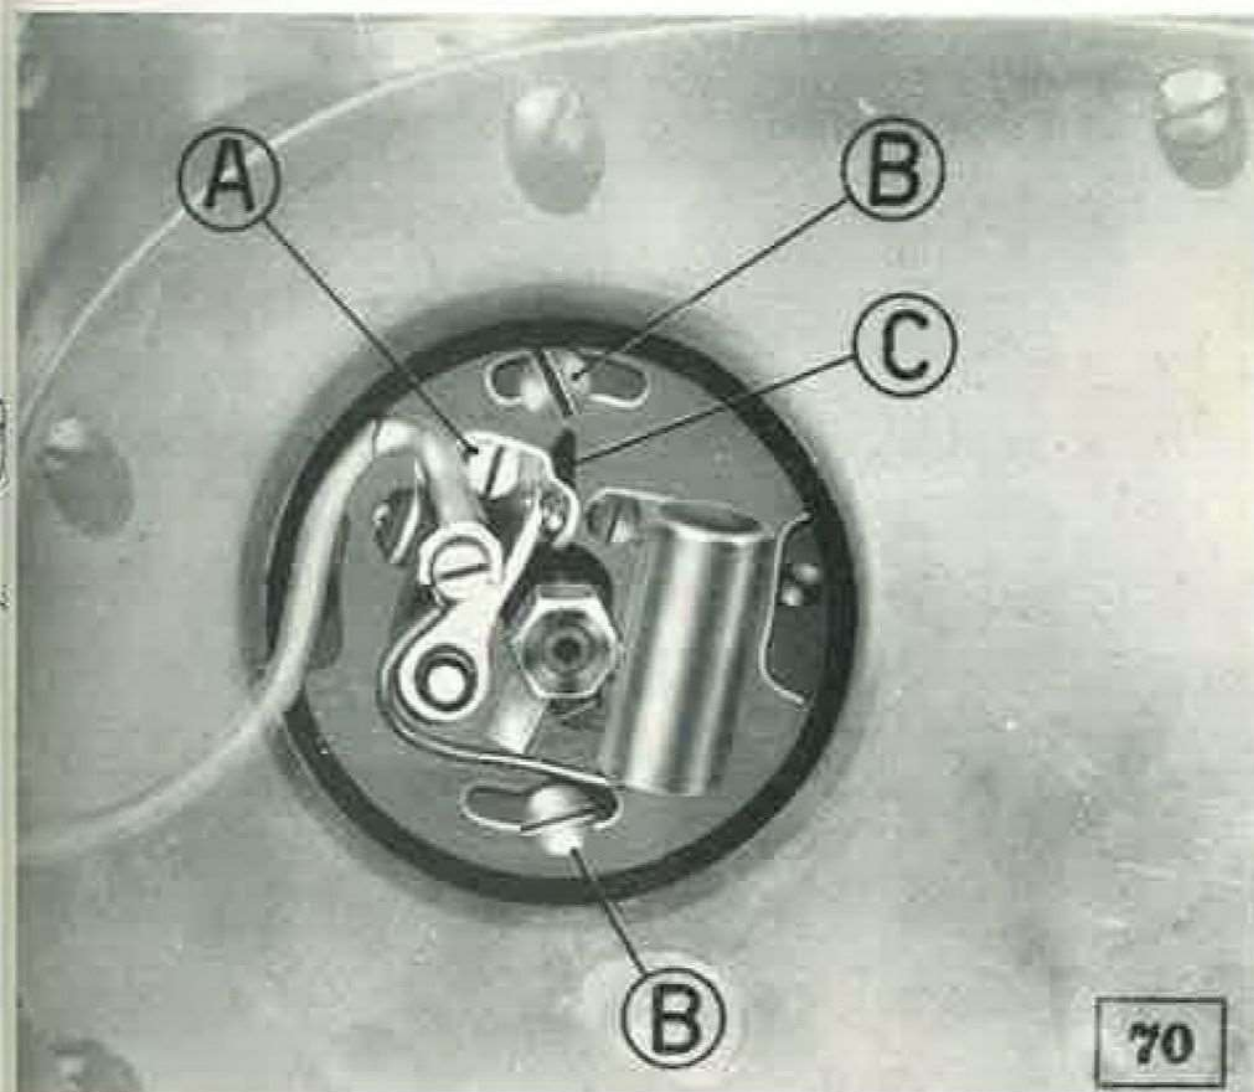
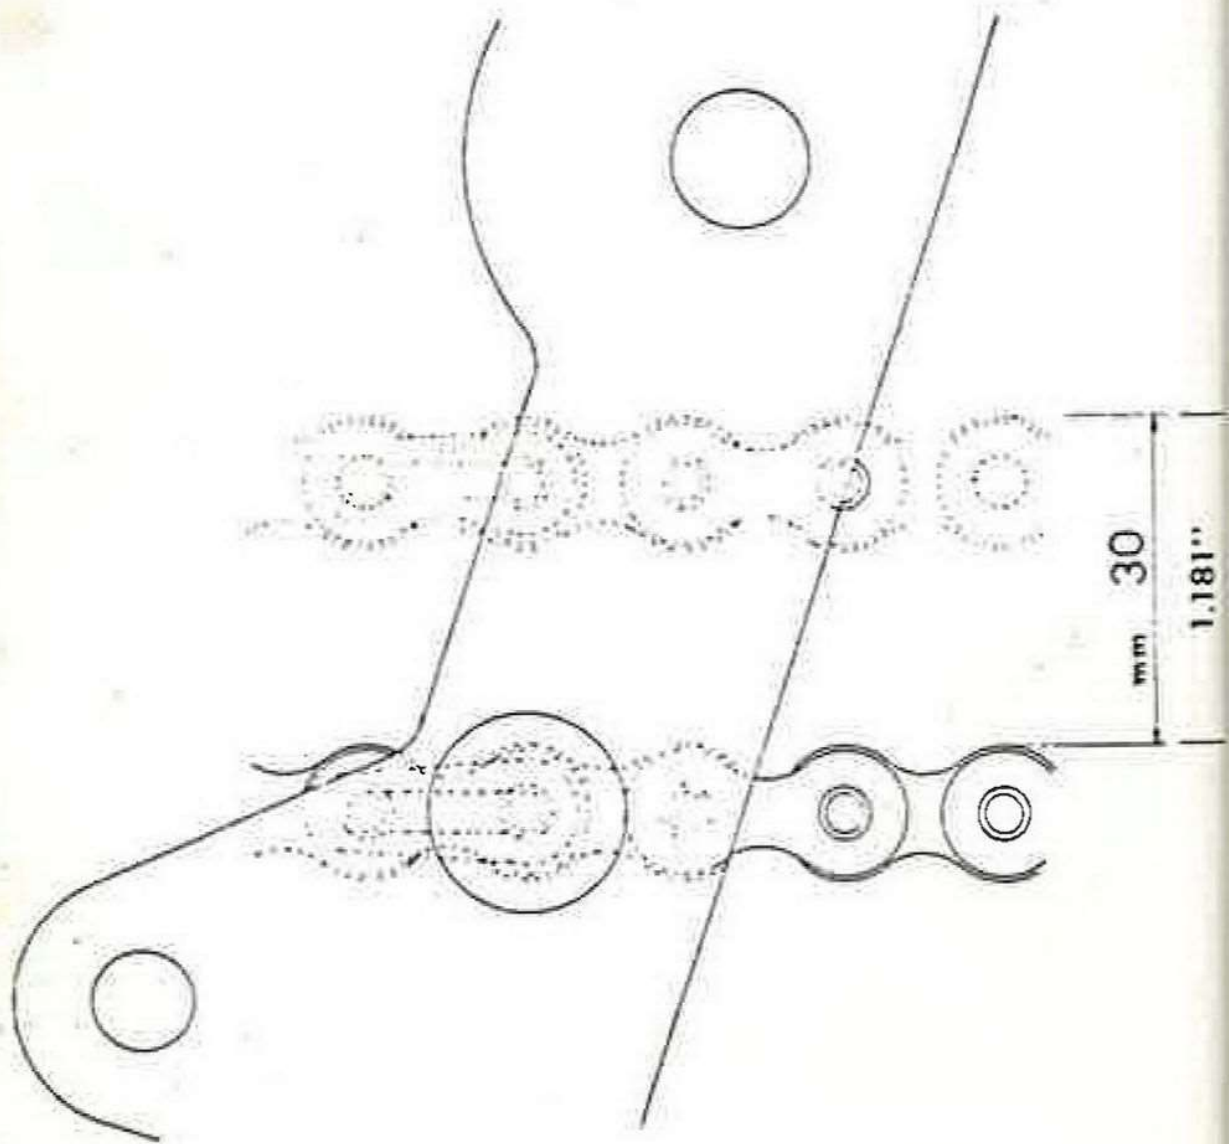

Fig. 13
Fig. 14
### 5. Adjusting the contact-breaker (See Fig. 13).
- b) Eventually adjust this clearance by means of the screws A (see fig. 13 of the instruction book).
- a) Have the piston at T.D.C. in compression phase and make a first reference line across the dynamo armature and the dynamo brush housing (see fig.13 Bis). Make a second reference line on the dynamo armature at 6 degrees clockwise, that is a half of the dynamo armature segment, (see fig. 14 Bis).
If points do not start to open when the line coincide, move the contact breaker plate clockwise or anticlockwise according to requirements, by means of the screws B (see fig. 13 on the instruction book).
To check the correct chain tension, place the cycle on its prop-stand, and measure the slack along the edge of the rear engine support plate, which results by lifting the lower edge of the chain along this edge. This slack should be of 30 mm. (about 1.1811") (See Fig. 14).